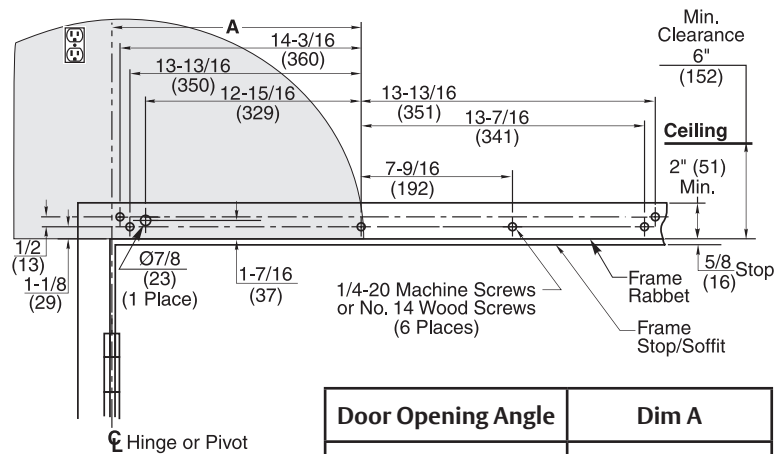

Figure 3 Right Hand Shown
4. Using detailed template on page 19, prepare six (6) holes for 1/4-20 machine screws or 14 x 2-3/4" wood screws. Blind rivet nut (by others) is suggested for unreinforced hollow metal or aluminum frames. (Figure 3)
5. For concealed Class 2 low voltage only: Prepare one (1) 7/8" (22mm) diameter hole for conduit, for switch/ sensor wires only.
- Placement of receptacle (outlet) = max 15" (381mm) of power input end of operator (shaded area). (Figure 3)